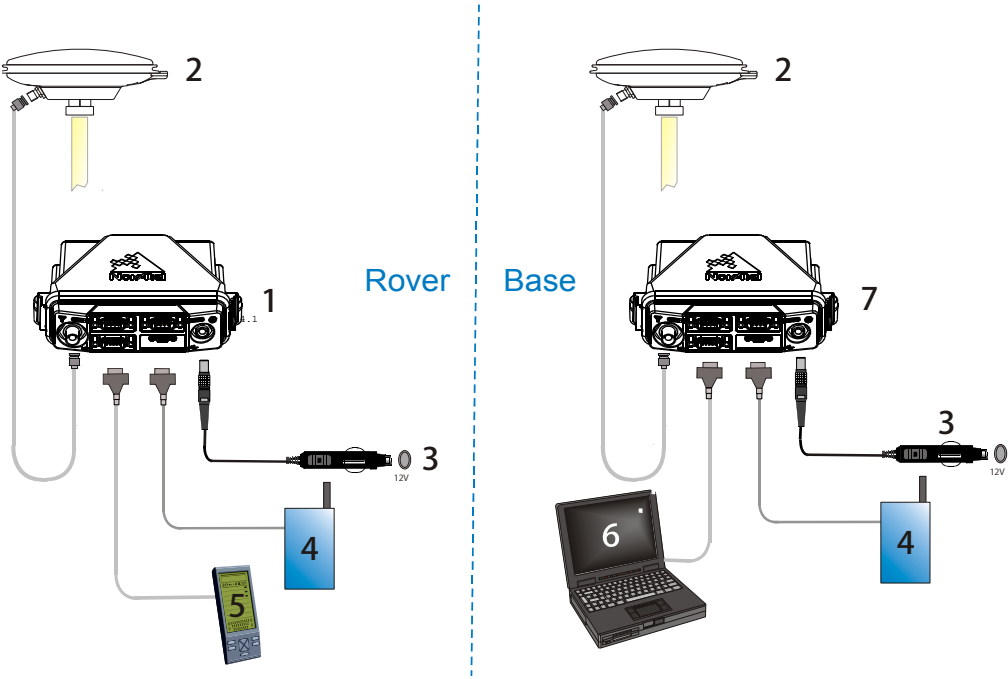

Figure 10: Basic Differential Setup
- See also *Figure 10* on page 50 for a base/rover example
base station is the GNSS receiver that acts as the stationary reference. The stationary reference has a known position and transmits correction messages to the rover station. The rover station is the GNSS receiver that does not know its exact position and requires correction messages from a base station to calculate differential GNSS positions. An example of a differential setup is shown in *Figure 10*.